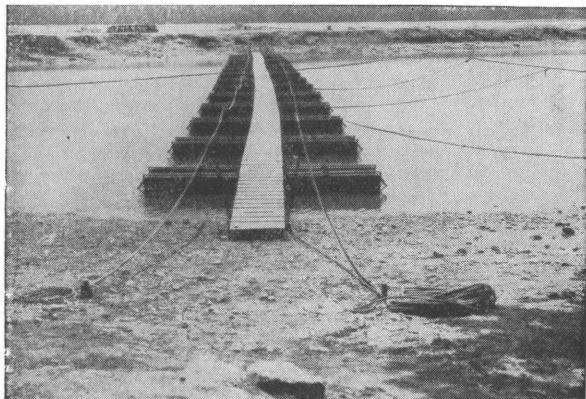

FIGURE 118.—Footbridge M1938.
a. The *footbridge* M1938 is constructed of separate rafts called "bays," each 12 feet long, consisting of a duckboard supported by two floats. (See fig. 118.)